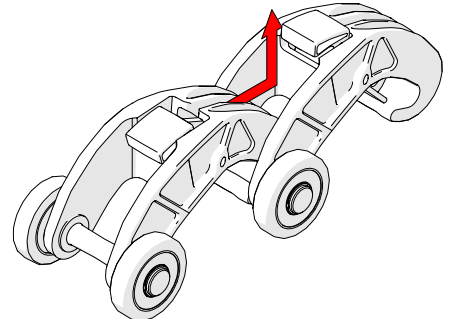

Fig. 49 - Slide link forward and lift
2. While pressing the button, slide the QuickLink forward and up, clearing the hook of the QuickLink from the 2nd link's axle (Fig. 49).